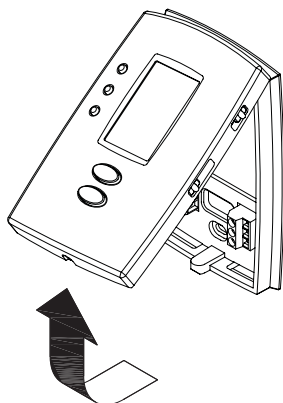

Figure 1
- ❶ Loosen the locking screw at the bottom of the thermostat. Note that the screw is captive and cannot be removed from the wallplate.
- ❷ Separate the thermostat from the wallplate as per Figure 1.
- ❸ Position the wallplate against the wall and mark hole positions with a pencil.